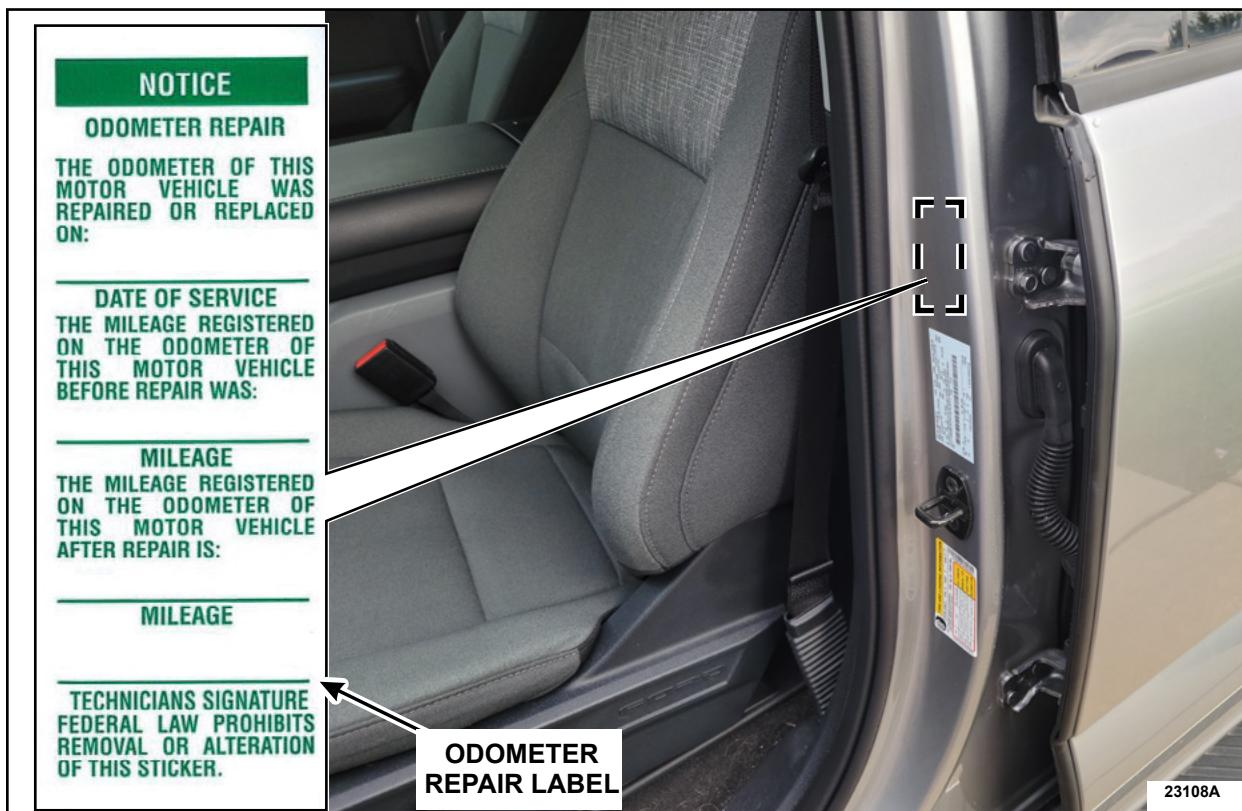

FIGURE 1
6. Fill out and install the odometer repair label on the driver door jamb next to the VIN label. See Figure 1.